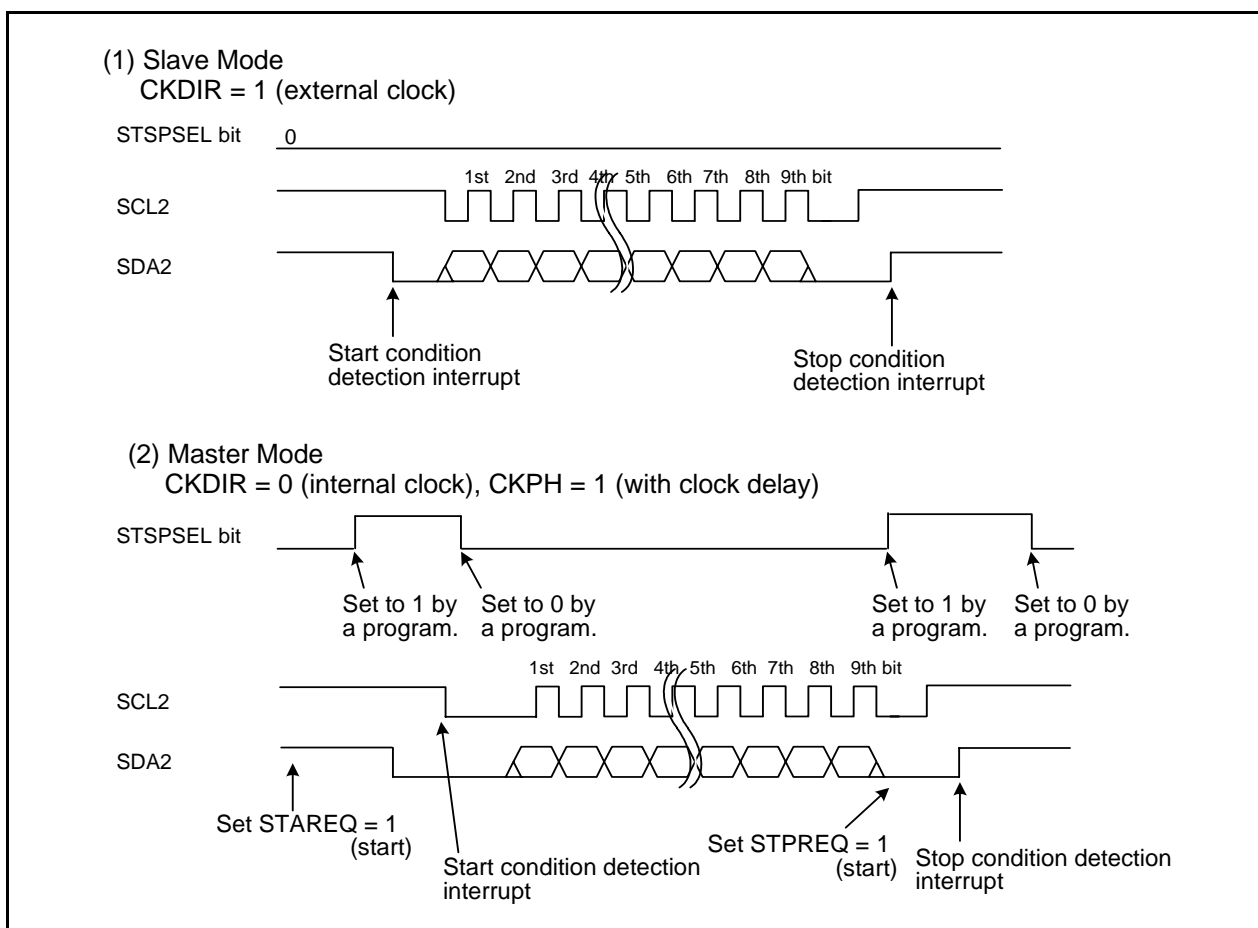

Figure 25.16 STSPSEL Bit Functions
5. Refer to **Figure 25.16 STSPSEL Bit Functions**.
Table 25.13 lists the STSPSEL Bit Functions. Figure 25.16 shows the STSPSEL Bit Functions.